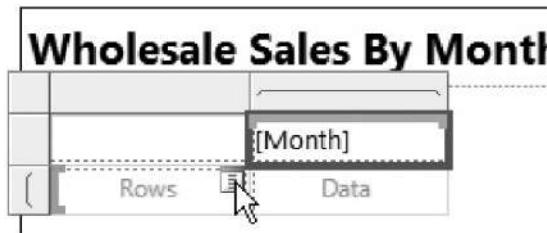

**Figure 17-6** The Expression dialog box with a Parameter expression
11. In the Set expression for: Value area, replace “Value” with Label. The Expression dialog box appears, as shown in Figure 17-6.